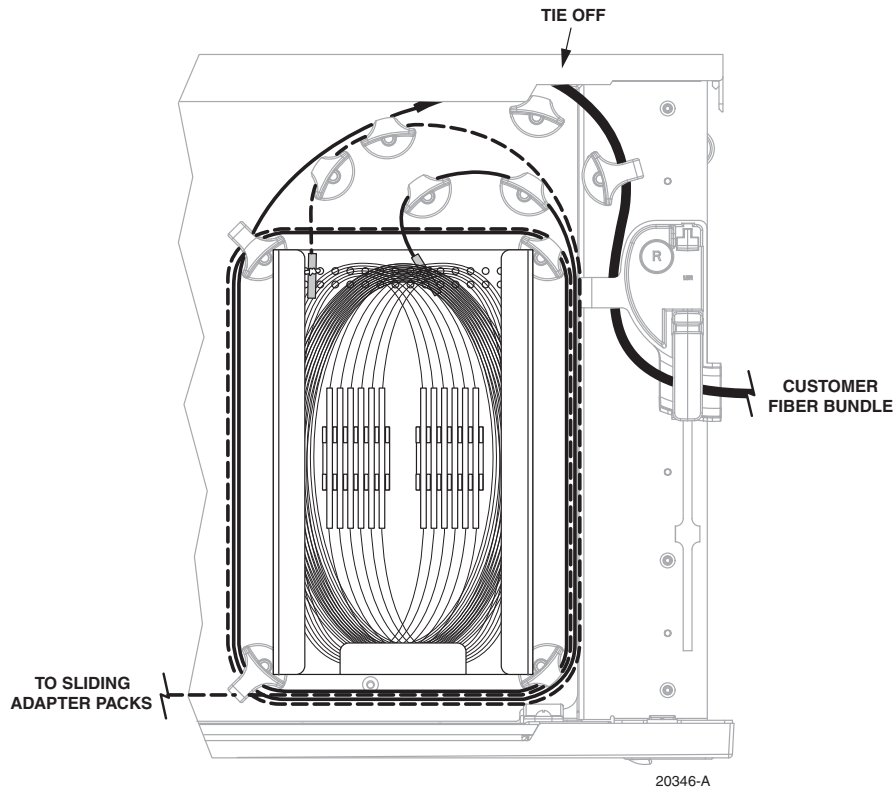

Figure 14. Cable Routing for 12 Termination and Splice Tray, Step 4
4. Carefully position the tray within the splice area as shown in Figure 14. Make certain that the pre-terminated and customer fiber bundles are properly routed around the appropriate radius limiters as they enter the FMT (see Figure 14).